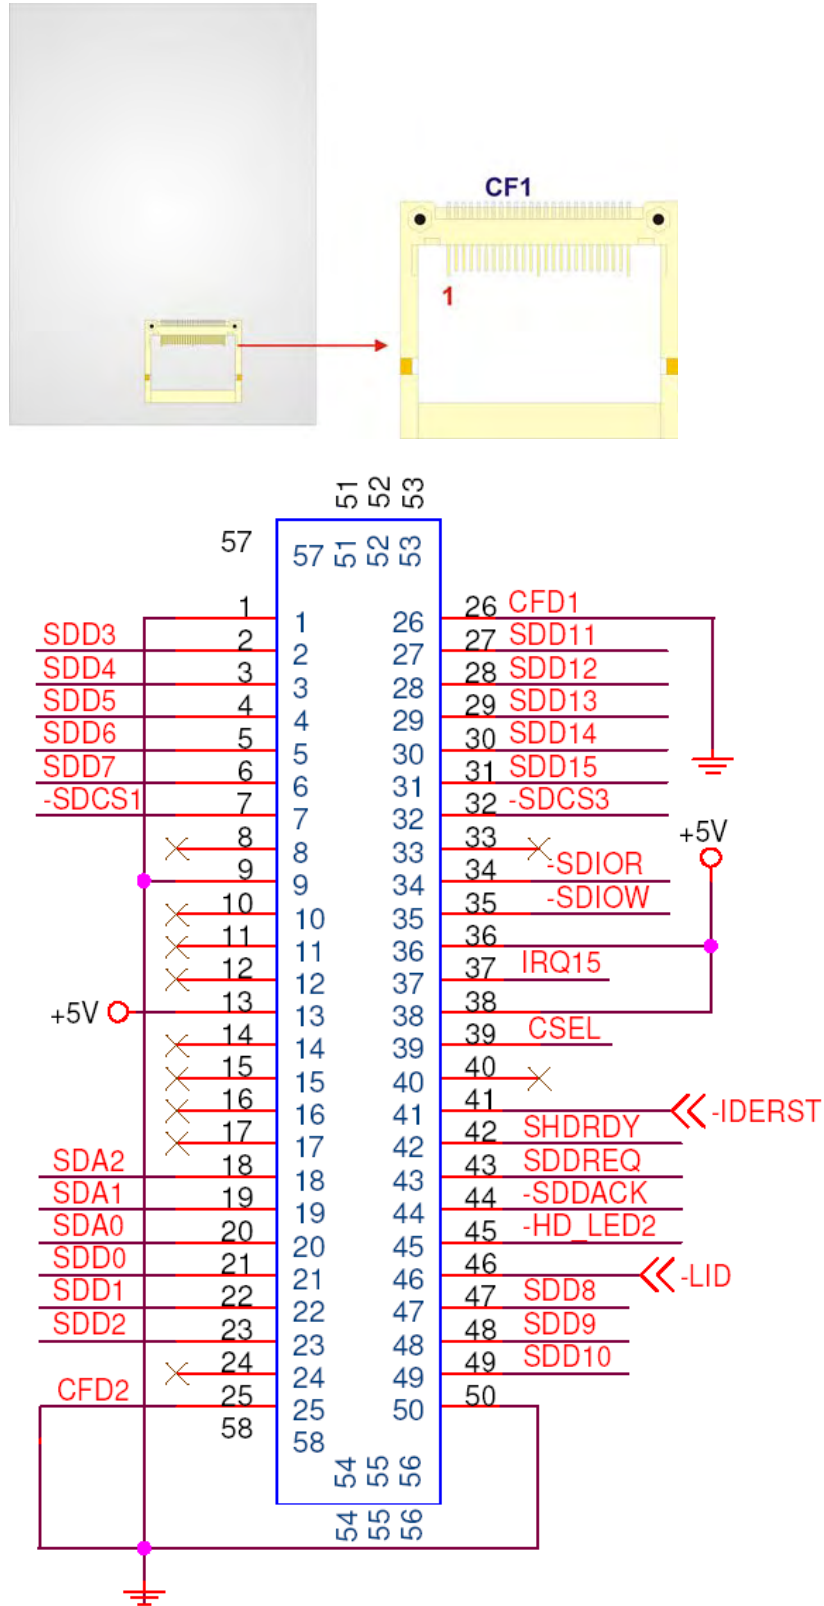

Figure 3-7: Compact Flash Connector Location
- CN Location:** See **Figure 3-7**